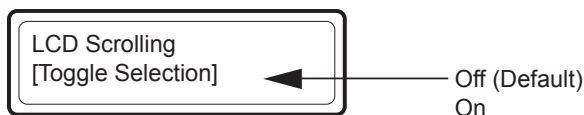

Figure 4.3—Enabling automatic scrolling
3. Press ENTER repeatedly to advance the display to “LCD Scrolling” (Figure 4.3, Page 32).